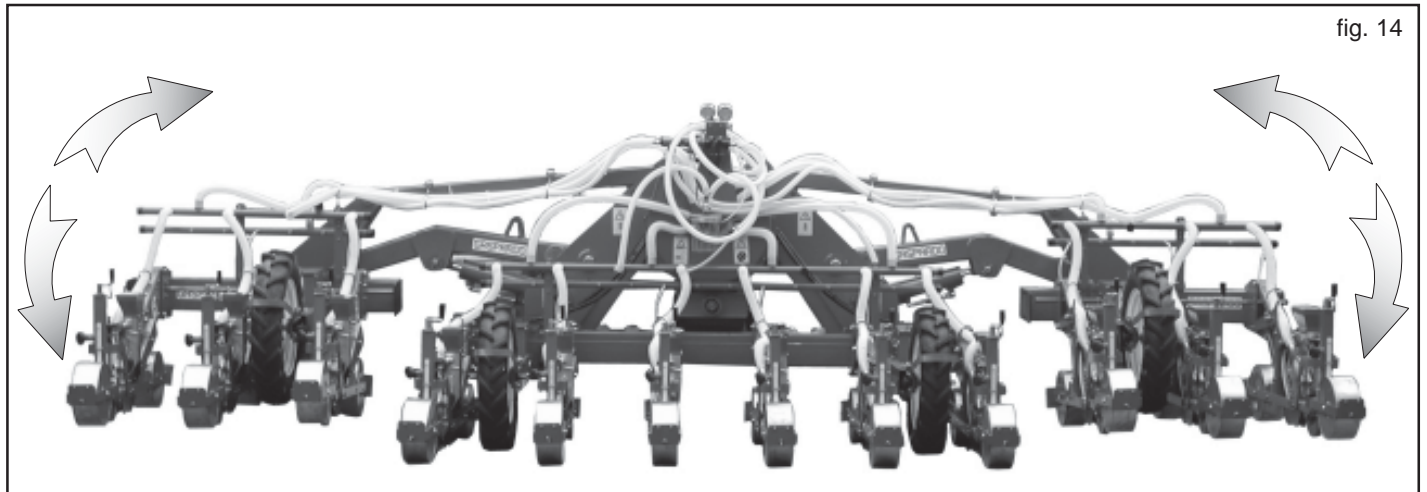

fig. 14
The machine frame is designed so that the side ends that hold the planting elements can be folded using a hydraulic system (Fig.14), thus reducing the road.
- 6) Actuate the hydraulic system to open the frame (Fig. 14), keeping the planter raised from the ground.